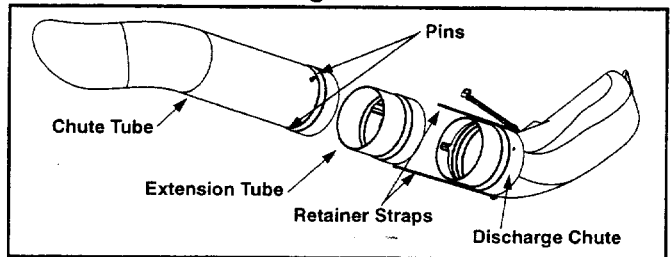

Figure 6
- Insert the upper end of the chute tube into the hole in the cover assembly, then insert the extension tube between the discharge chute and the chute tube. See Figure 6.